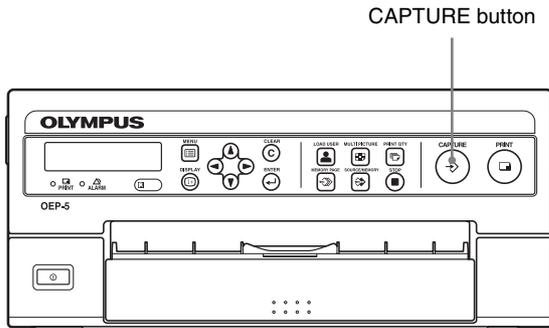

Figure 4.9
- 2 When the desired image is displayed, press the “CAPTURE” button (see Figure 4.9).